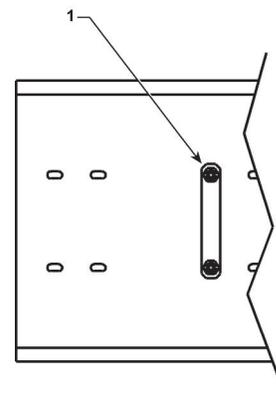

Figure 2. molstic-S Nut Plate
- 7 Place the flat side of the 60 mm nut plate (Fig 2, 1) under the molstic-S platform. Align it with the holes in the platform and the regulator bracket. Hold it in place.